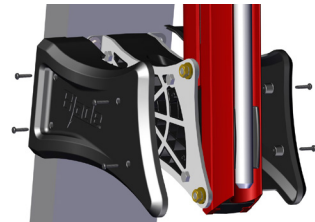

Figure 1
After installing the Power-Pole to either the transom or an Adapter Plate, install the shrouds **A** and **B**. Then install the (8) screws **C**, ensuring you do not over-tighten. FIG. 1